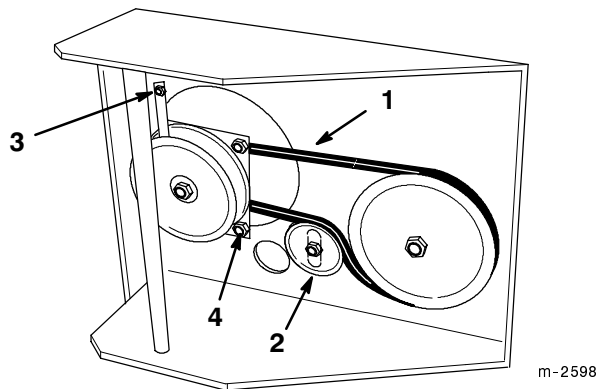

Figure 41
- Remove the left front engine mounting bolt which secures the clutch retainer to the frame (Fig. 41).
- Unhook the retainer from the clutch and remove the retainer (Fig. 41).
- Loosen the idler mounting bolt enough to move the idler pulley and remove the traction belt from the drive pulley and clutch (Fig. 41).
- Install the new belt around the clutch and drive pulley (Fig. 41).
9. Hook the clutch retainer into the clutch and secure it to frame with the engine mounting bolt (Fig. 41).